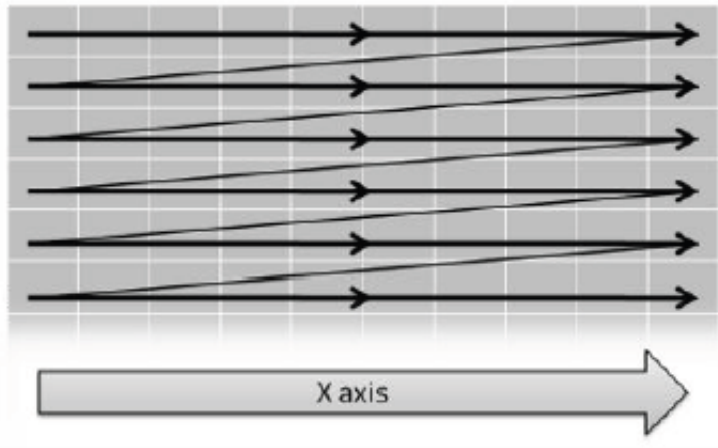

Figure 3. RLE encoding direction
The RLE decoder implemented on Vybrid does not know the concept of rows and lines in a displayed frame but treats the data as a single dimension array as shown in Figure 3.
- Configure the read eDMA channel, Channel A in Figure 3
- Configure the write eDMA channel, Channel B in Figure 3